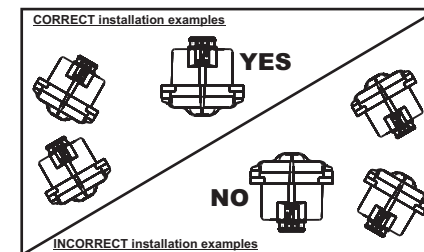

Fig.2
- Face the siren speaker downward so as to avoid water damage (Fig. 2).